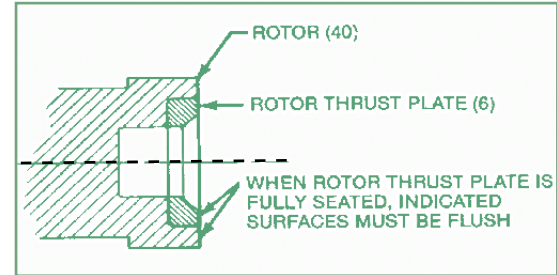

Figure 4-6. Rotor Thrust Plate Seating Detail
1. Slip O-ring (41) over the rotor head and allow to hang loose with head ring. Insert primary thrust plate (6) into rotor head, flat side first. Thrust plate and rotor head surfaces must be flush to assure proper assembly and operation of the pump. (See fig. 4-6.)
2. Assemble the rotor end gear joint by first fitting a gear joint seal (13) onto the connecting rod assembly (38). The seal must be positioned so that the flat face of the seal neck fits into the seal retainer component of the connecting rod assembly. Apply a small coating of approved gear joint lubricant to the inside surfaces of the seal.
3. Apply a small amount of lubricant to the flat face of the seal support (12) and slide it onto the connecting rod so that the flat face and radius of the support is against the seal.
4. Grease the concave spherical surface of the rear thrust plate (11) and position thrust plate against the seal (13) with the lip on the outside diameter of the seal fitting the step on the back side of the thrust plate.